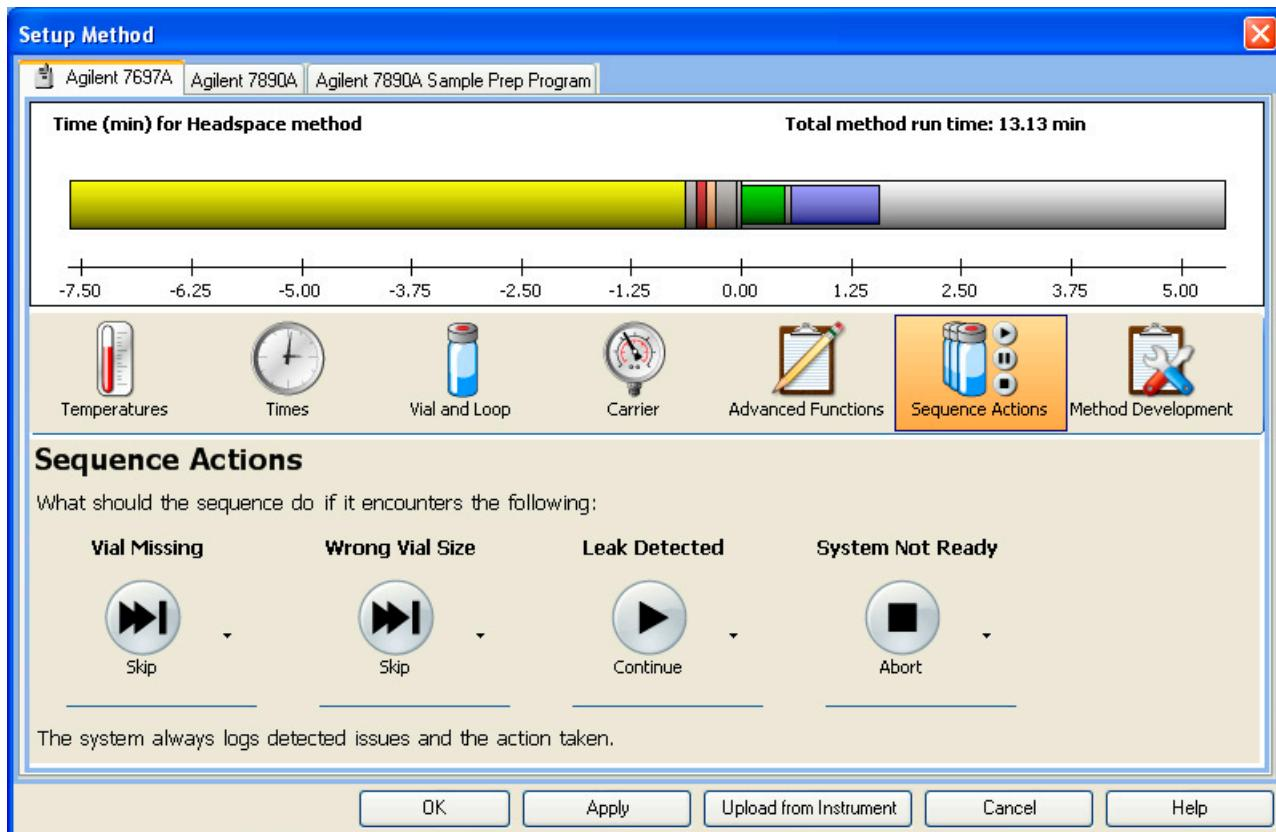

Figure 19 Setting the sequence actions
- 8 Select the **Sequence Actions** icon and set the parameters shown in Figure 19.